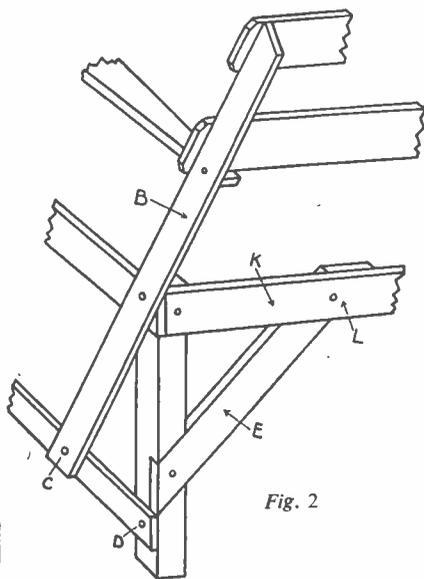

Fig. 2
The spar (B) (Fig. 2) can now be sawn. This is for the back-rest, but it also acts as a stabilising stay, keeping the legs and rails firm and free from movement.
(B) can be about 2 ins. by $\frac{1}{2}$ in. in section. The top is sawn off at an angle to improve appearance. The piece is finally screwed securely to the end section as shown in Fig. 2.
Next, deal with the leg stays (E, Fig. 2). There is one of these to each leg, and, as stated before, will be $1\frac{1}{2}$ ins. to 2 ins. wide by $\frac{1}{2}$ in. thick. Saw the end to fit at the bottom of the leg, but do not yet saw the top. The top is left projecting and is sawn off flush with the seat edge later when this is in position.